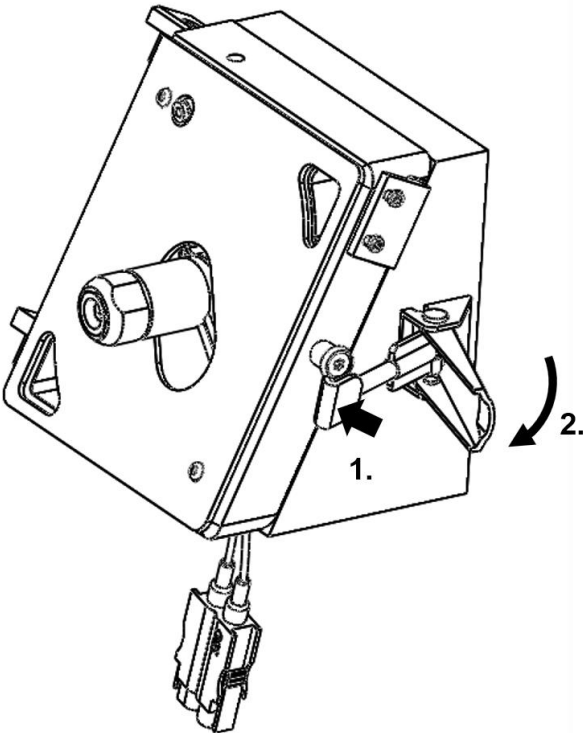

Figure 8: Closing the locking catch.
- Lock the housing by closing the locker over the catch on the interface (see Fig. 8).